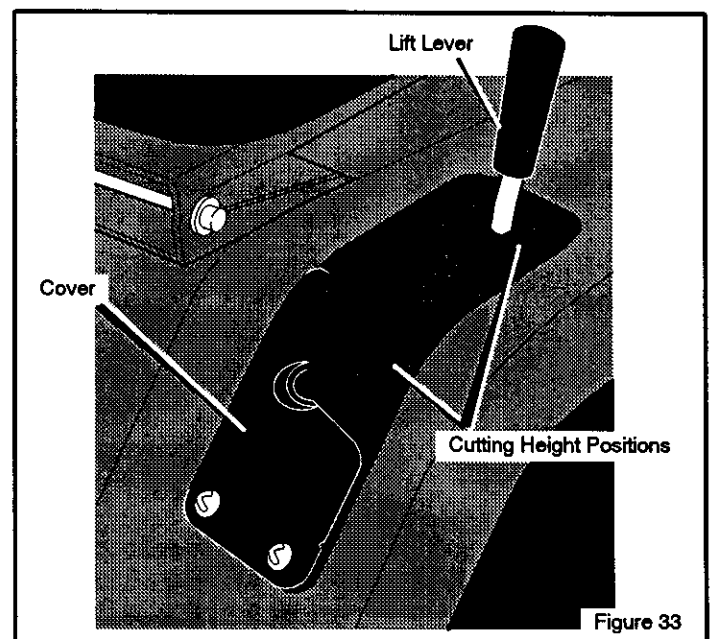

Figure 33
8. Raise the lift lever from the LEVEL ADJUSTMENT position to a CUTTING HEIGHT position (Figure 33).